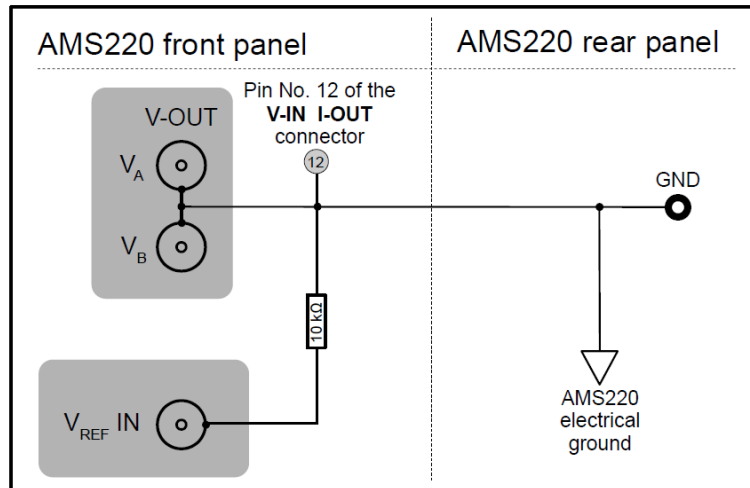

Fig. 4.1-3 The principal electrical grounding scheme of the AMS220.
In general, it is necessary to **avoid the formation of ground loops in the circuit** to which the AMS220 is connected (e.g., as a result of connecting the shields of various signal cables on their both ends), and to **avoid the formation of direct galvanic connection between various local electric grounds** in the experimental setup. Therefore, if the AMS220 is used in conjunction with an industry standard lock-in amplifier (as shown in Fig. 4.1-1), diagram of interconnection of the AMS220 with experiment (Fig. 4.1-2), grounding scheme of the AMS220 (Fig. 4.1-3) and interconnection of shielded signal wires between the lock-in amplifier and the AMS220 (Fig. 4.1-4) as shown in figures below need to be considered.
- a) In the case that the experiment has a grounded shield, and the connection is made pursuant to the point (i) above, the electrical ground of the AMS220 will be defined by the electric potential of the experiment shield; so because of internal connections of the AMS220 shields of the V_A and V_B outputs have the same electrical ground as the experiment shield (see Fig. 4.1-3). Therefore, if performing measurements with help of a lock-in amplifier, it is necessary to select appropriate grounding mode of the shields of the signal inputs **A** and **B** on the lock-in amplifier (typically “**FLOAT**” setting); this prevents creation of undesired low-impedance interconnection between the electrical ground of the lock-in amplifier and the electrical ground of the experiment.
- b) On the contrary, if the electric shield of the experiment is not connected to the defined electric potential (i.e. one is floating), it is recommended to select “**GROUND**” option on the lock-in amplifier, which ensures connection between the electrical ground of the lock-in amplifier with the electrical ground of the AMS220 via shields of signal BNC cables (see Fig. 4.1-2, Fig. 4.1-3 and Fig. 4.1-4). Regarding to the connection pursuant to the point (i) above, this will ensure also definition of the electrical ground of the experiment shield; in this case electric potential of the shields of experiment will be defined by the (grounded) shields of signal inputs (**A** and **B**) of the lock-in amplifier.